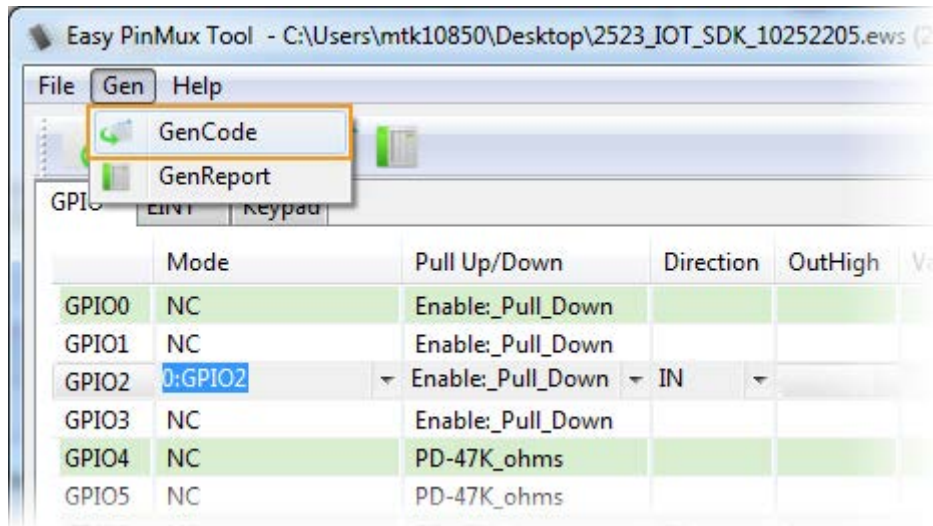

Figure 5. Generate code for the current configuration
- 1) In **Gen** menu, click **GenCode** to generate a source code for the driver. All generated files are saved in **\output\25x3(768x)** folder. The header files (**.h** files) are saved in the sub-directory **inc**, while the source files (**.c** files) are saved in the sub-directory **src**. Once the source code is generated successfully, a popup message will prompt the file path, as shown in Figure 5.